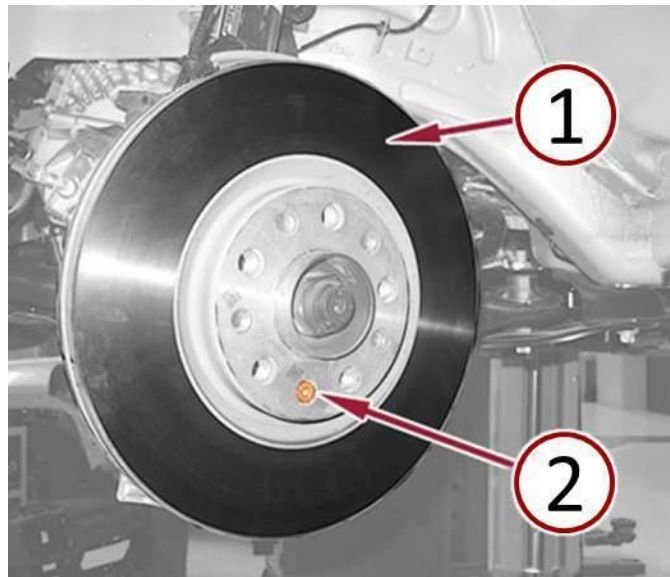

Fig. 5 Remove Brake Rotor
- 11. Remove the brake rotor retaining bolt (2) (Fig. 5).
- 12. Remove the brake rotor (1) (Fig. 5).